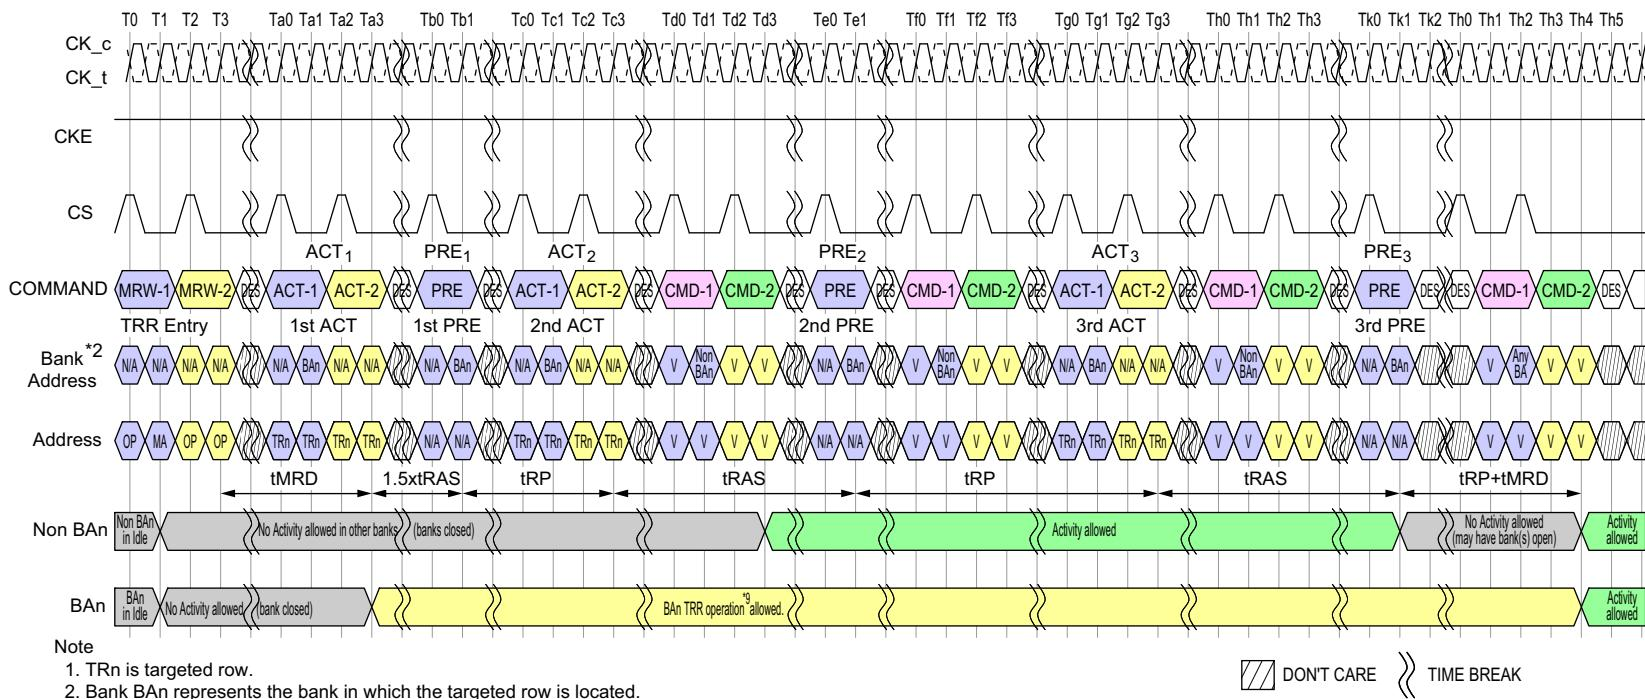

Figure 148 — TRR Mode
1. The timing diagram in Figure 148 depicts TRR mode. The following steps must be performed when TRR mode is enabled. This mode requires all three ACT (ACT1, ACT2 and ACT3) and three corresponding PRE commands (PRE1, PRE2 and PRE3) to complete TRR mode. A Precharge All (PREA) command issued while LPDDR4 SDRAM is in TRR mode will also perform precharge to BAn and counts towards a PREn command.